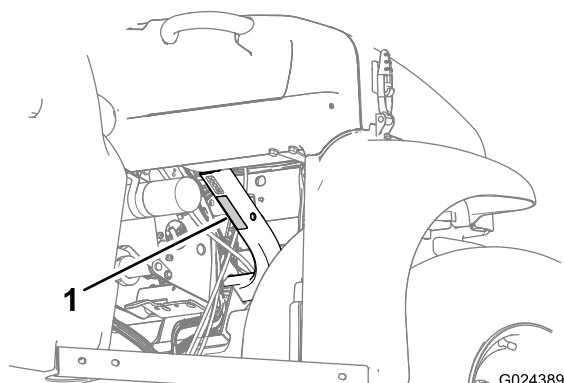

Figure 18
- Observe the weight capacity of the machine and limit the weight of the load that you carry in the cargo box as described in Specifications \(page 16\) and on the gross vehicle weight tag of the machine (Figure 18).